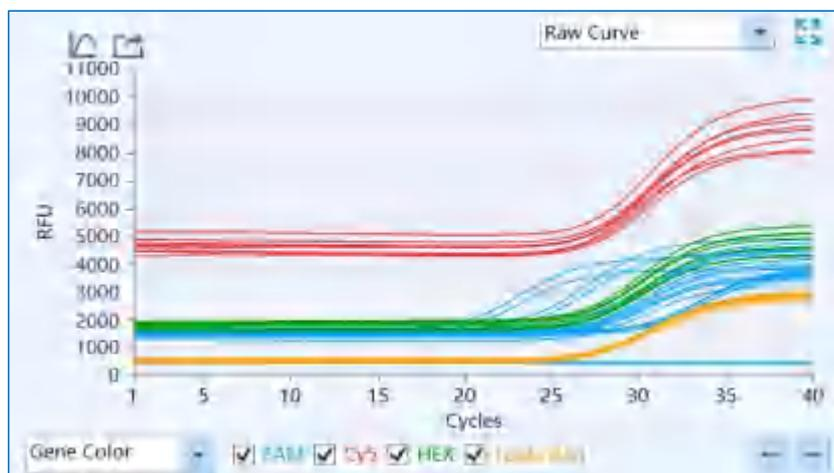

Figure D-8.5. Abs Quant analysis interface - Raw Curve functional module
- V. **Raw Curve**: display the diagram of raw amplification curve without subtract baseline, as shown in figure D-8.5. The parameters and function keys of raw curve functional module are same with those of amplification curve functional module.